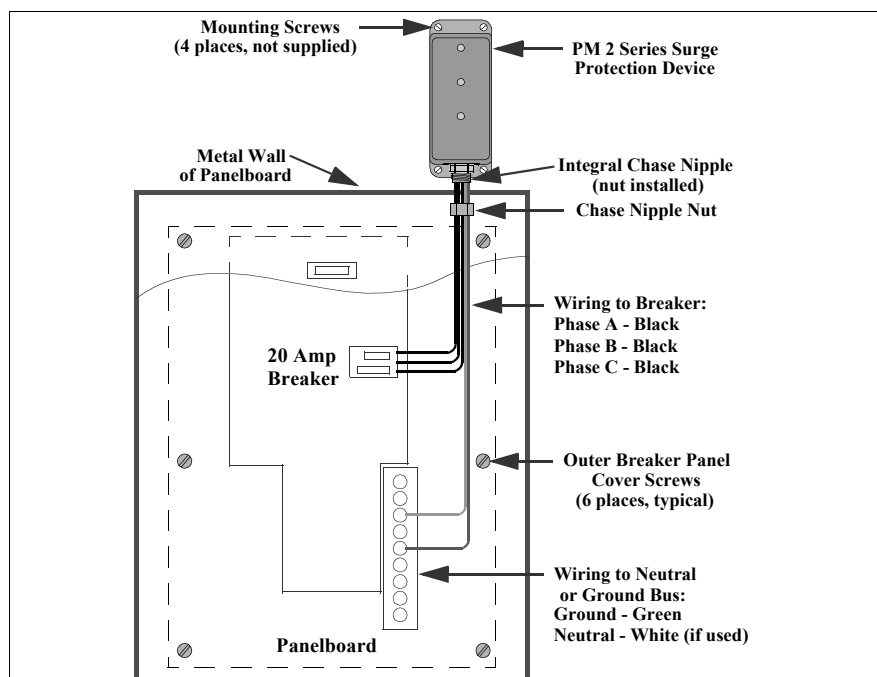

Figure 1. PM 2 Series Panelmount Surge Protection Device Installation (typical)
This manual provides instructions for installing the PM 2 Series SurgeArrest Panelmount Surge Protection Device (SPD), as well as an optional Flush-Mount Kit. The PM 2 Series Panelmount SPD (Figure 1) can be mounted three ways. The preferred method of installation is to mount the SPD directly to the outside of the distribution panelboard using the integral chase nipple on the body of the SPD. It can also be installed against a panel/wall using installer-supplied hardware, or it can be installed using an optional Flush Mount Kit (p/n: FMK2). The latter two methods require use of additional conduit and hardware (not provided).
2. Remove the screws securing the outer panelboard cover to the distribution panelboard (panelboard) (see Figures 1 and 2).
2. Remove the screws securing the outer panelboard cover to the distribution panelboard (panelboard) (see Figure 1).